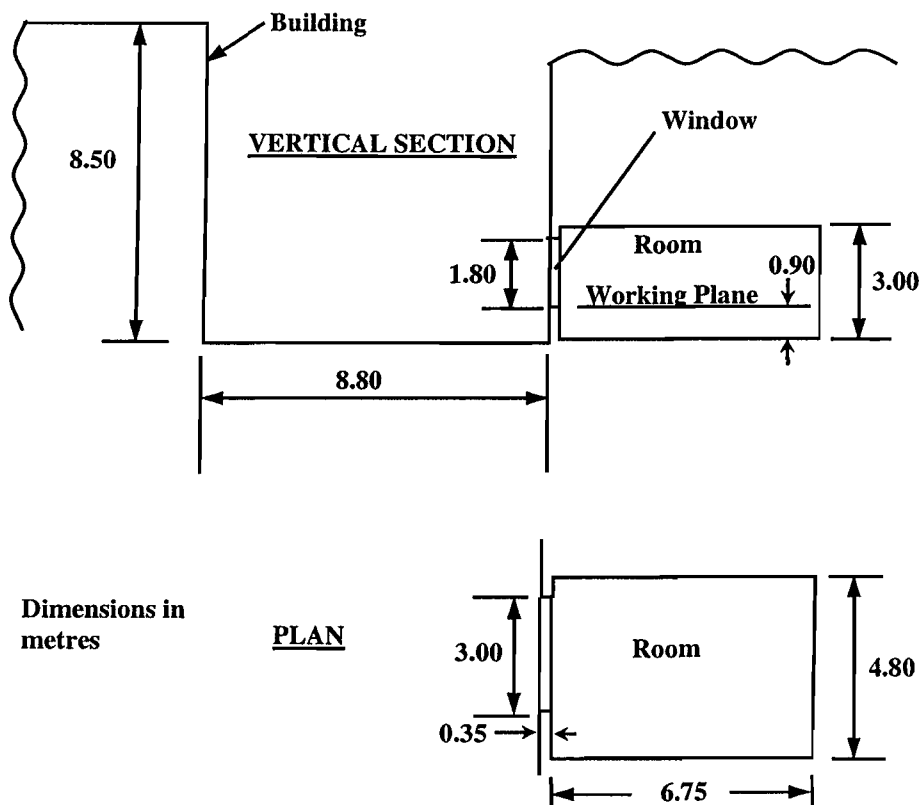

Fig. 3
- (c) Calculate the average daylight factor for the room shown in Fig. 3, assuming that the average internal reflectance is 50 %, the transmittance of the glazing is 72 %, and the maintenance factor is 80 %. [20%]